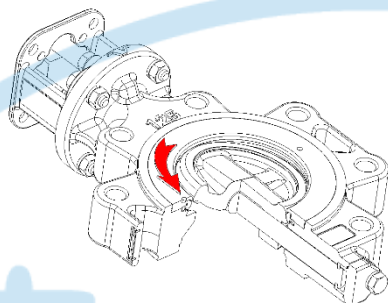
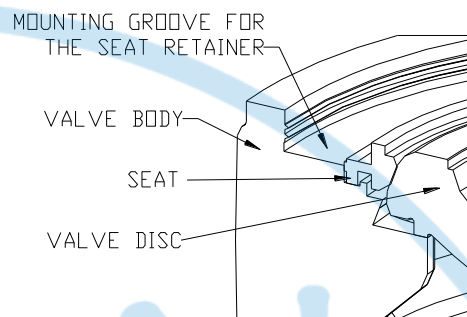

Fig.21-1
Fig.21-2
12.2.5. VF-91_A (24" and below): Please turn on the disc slightly by counterclockwise at firstly, remove the retainer(Fig.21-1) by counterclockwise rotation, and then remove the seat. (Fig.21-2).